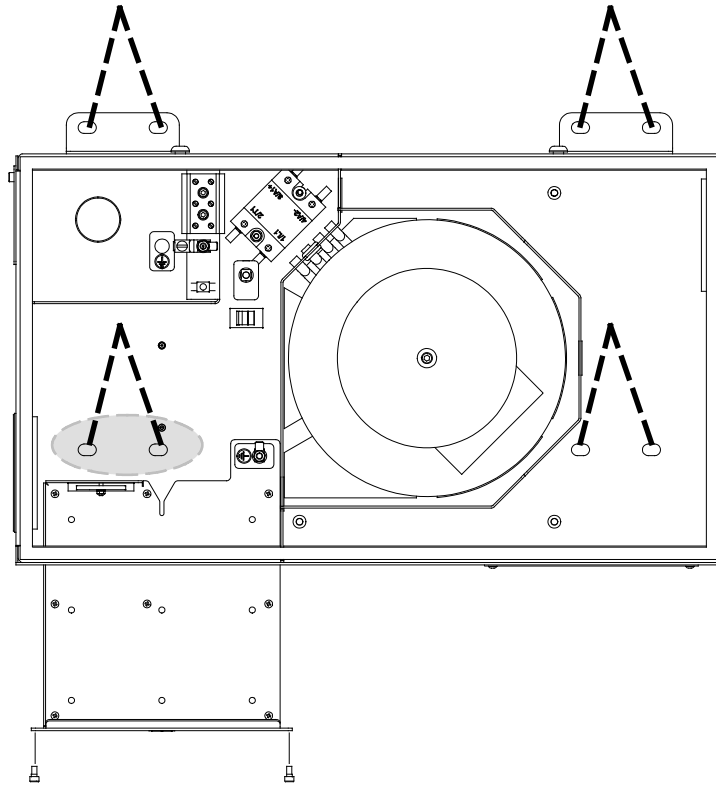

Figure F-7 Bolt hole location on the transformer base
1. See Figure F-7. Mark the bolt pattern on the parent machine or support structure and then drill holes for four 8 mm ( $\frac{5}{16}$  in.) mounting bolts (customer-supplied).